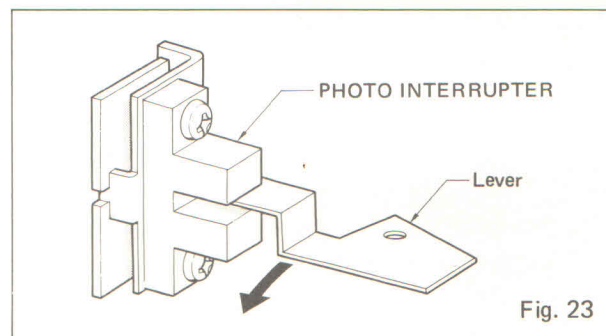

Fig. 23
- (1) As the Tone Arm moves toward the center and record playing is finished, the lever attached to the Adjust Lever will shield off the Photo Coupler beams (Fig. 23), turning off the Photo